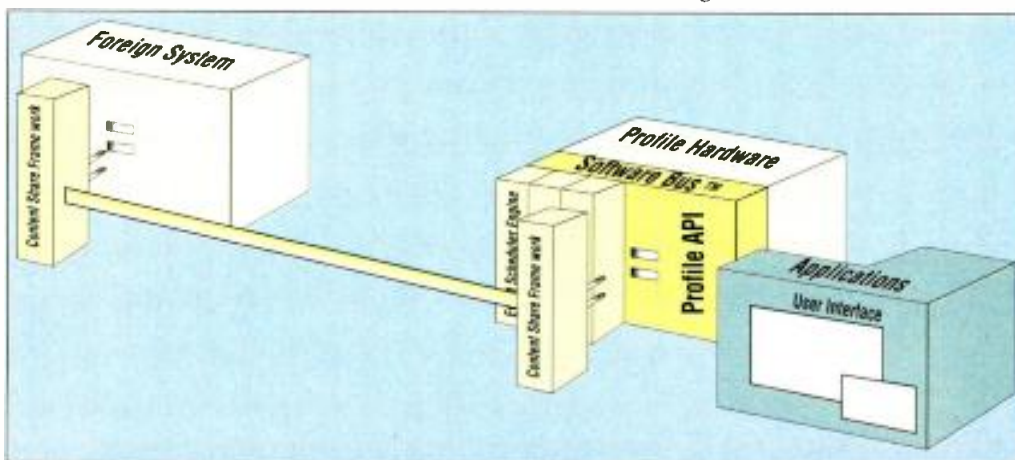

Figure 1: ContentShare integrates tightly with the Profile software architecture while concurrently providing access to a wide variety of applications.
Figure 1. 3x-zoomed image upconverted from 480i to 720p . Original odd lines are spatially shifted because of inter-field motion (A). Results of field interpolation (B) show an oblong shape of the sheep's eyes, indicating the loss of resolution. Motion adaptive conversion produces a higher quality image (C) than field interpolation on stills; however, double images can result as shown. Using TeraNex's PixelComp process (D), de-interlacing measures the inter-field motion and properly realigns the data between fields. The result is improved resolution. Compare this image quality (noting especially the round sheep's eyes) against that of the other methods.